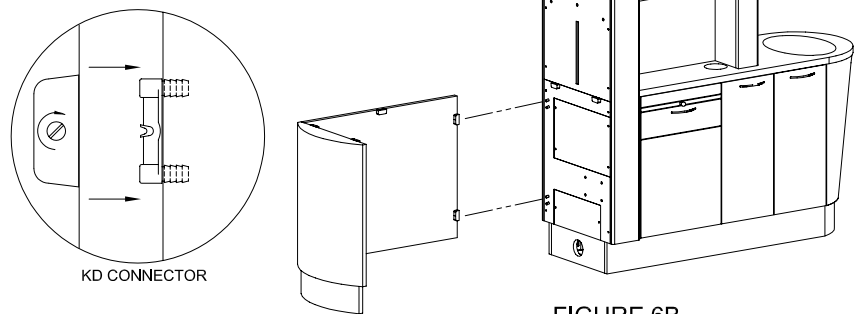

FIGURE 6B
Connect the column and back panel with the utility column of the main cabinet using the (2) KD connectors. Engage the KD connectors by turning the screw clockwise about 1/2 turn. See Figure 6B.